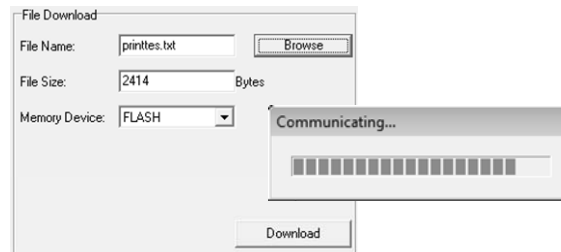

Figure 35. File Download Subsection
5. Once the file is selected, the “File Name” and “File Size” is shown in their respective boxes (see Figure 35, page 108).